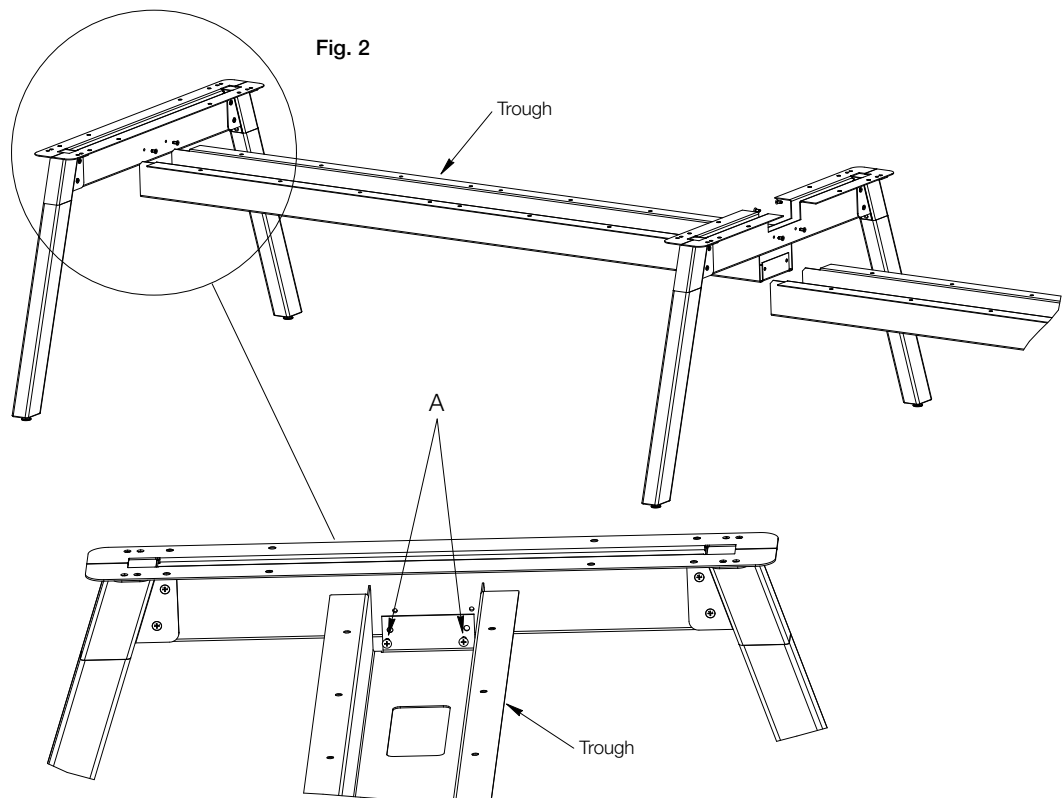

Fig. 2
3. Attach the troughs, to the support assemblies using screw (A), 2 per rail to assembly attachment. (Fig. 2)